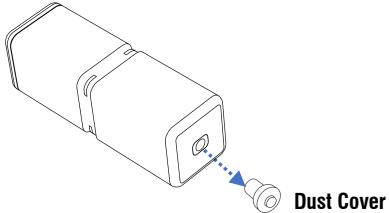

Figure 10A
- i. Remove Dust Cover. (*Please do not remove Dust Cover if Remote Sensor Probe not installed*) "Figure 10A"